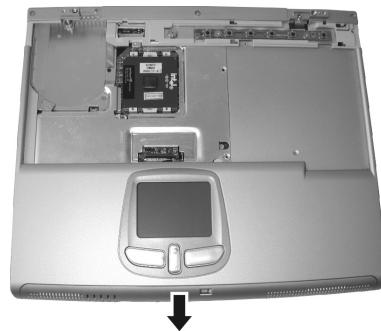

Figure 2-20
3. Remove the speaker assembly from the notebook. (Figure 2-20)